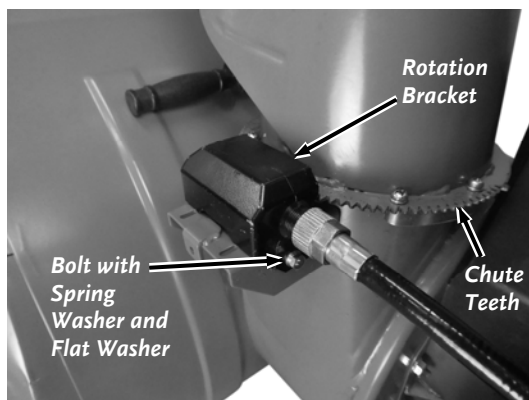

Figure 17
16. Position the Discharge Chute Rotation Bracket and hold it against the Chute Gear as you secure it with the two Screws, Lock Washers, and Flat Washers using a 10mm Wrench (**Figure 17**).